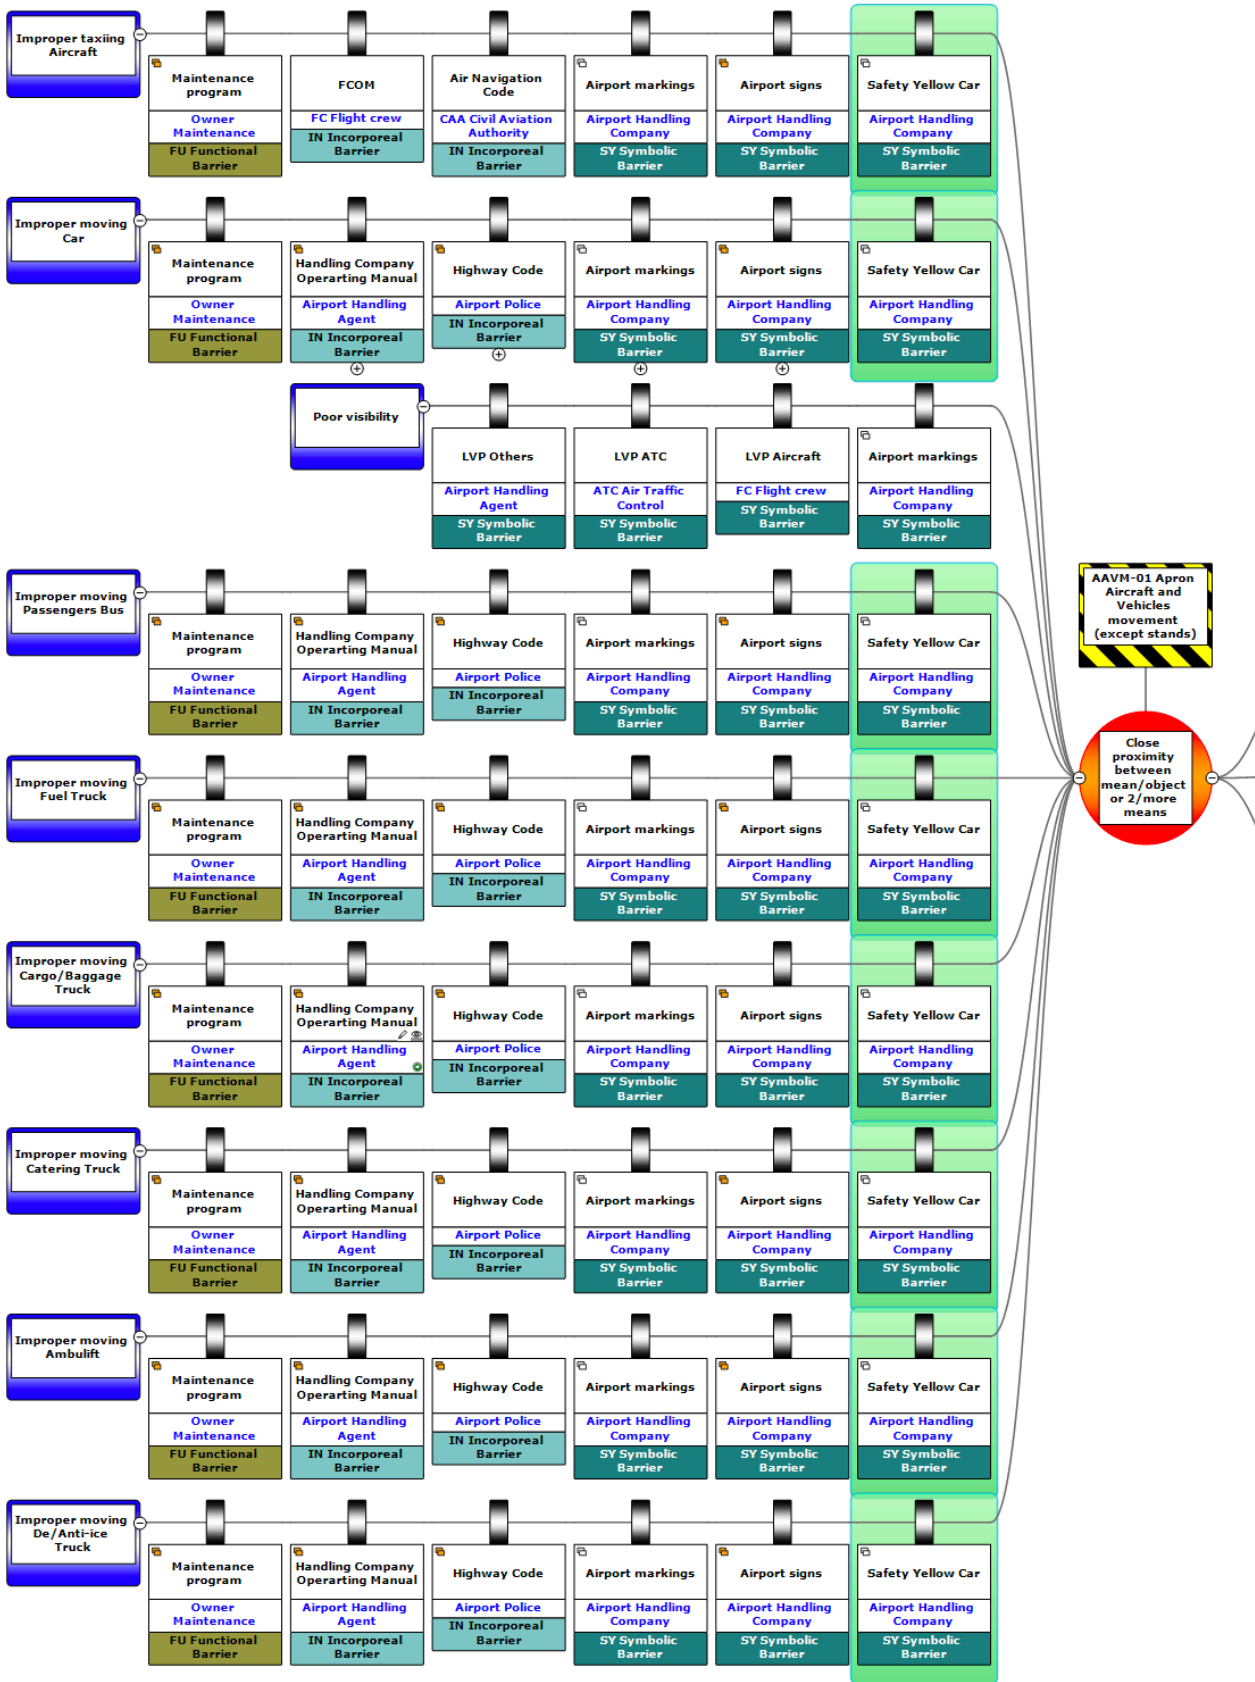

Figure 8: Modified Risk assessment following BFA recommendations
2. Introducing a new barrier, "Safety Yellow Car", in the native risk assessment, with Action 4 (Figure 8);